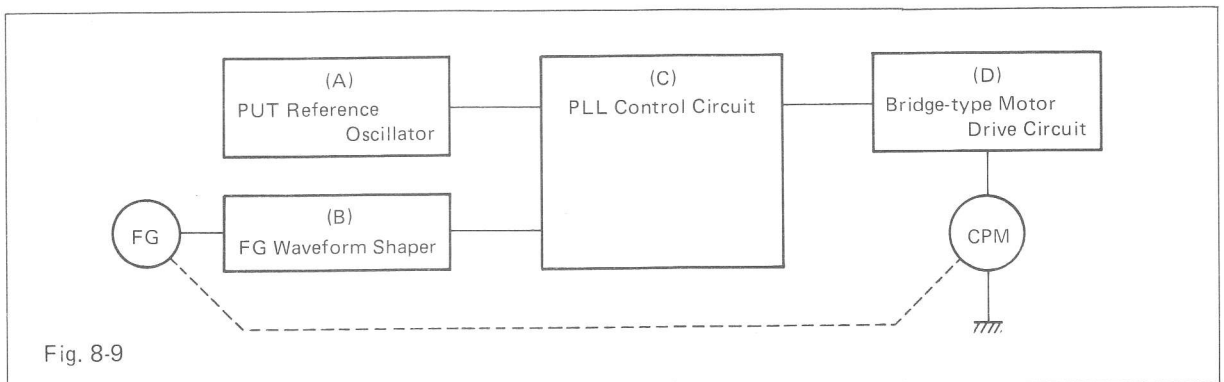

Fig. 8-9
As shown in Fig. 8-9, Block Diagram of the CPM Control Block, the CPM control circuit of Model 7700 is composed of (A) a Reference Oscillator Circuit using a PUT (Programmable Unijunction Transistor), (B) FG Waveform Shaper, (C) PLL Control Circuit, and (D) Bridge-type Motor Drive Circuit. These four packages are gate TTL modules.